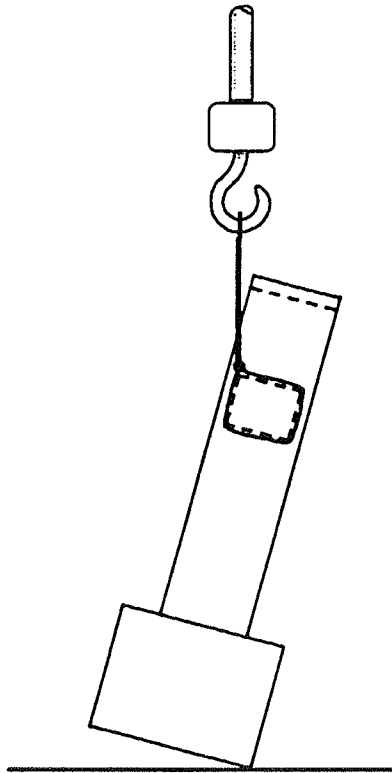

Figure 3-2. Final Positioning
- (d) Remove the skid and slowly lower the frame until the front corner is on the floor. Continue lowering the frame until all four base corners are resting on the floor as Figure 3-2 illustrates.